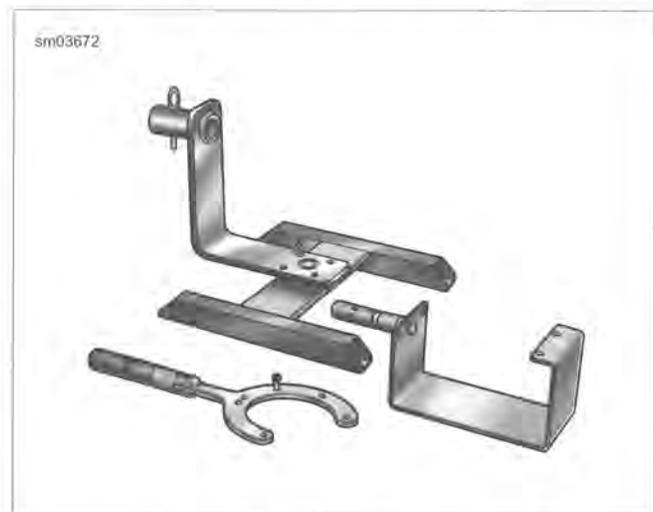

Figure 3-13. Engine/Transmission Bench Stand (HD-42310)
23. See Figure 3-13. Using the TWIN CAM 88 CRADLE (Part No. HD-42310-2), install engine in BENCH STAND (Part No. HD-42310) or ROLLING STAND (Part No. HD-43646A).